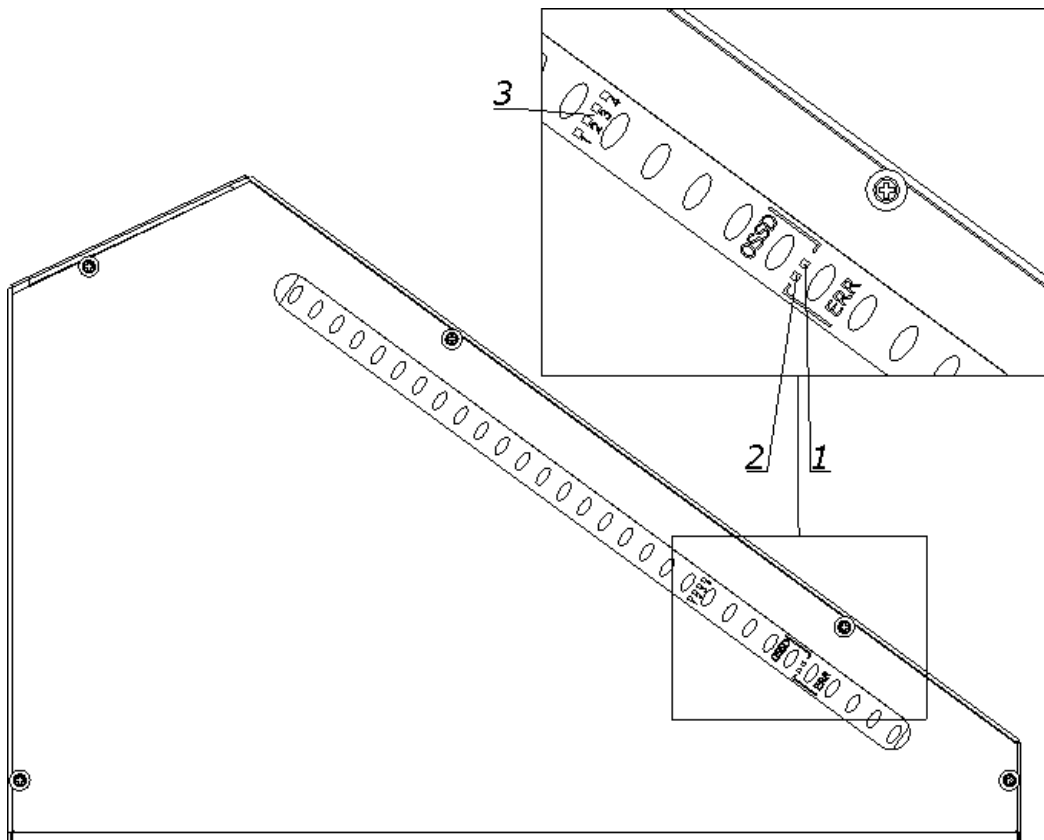
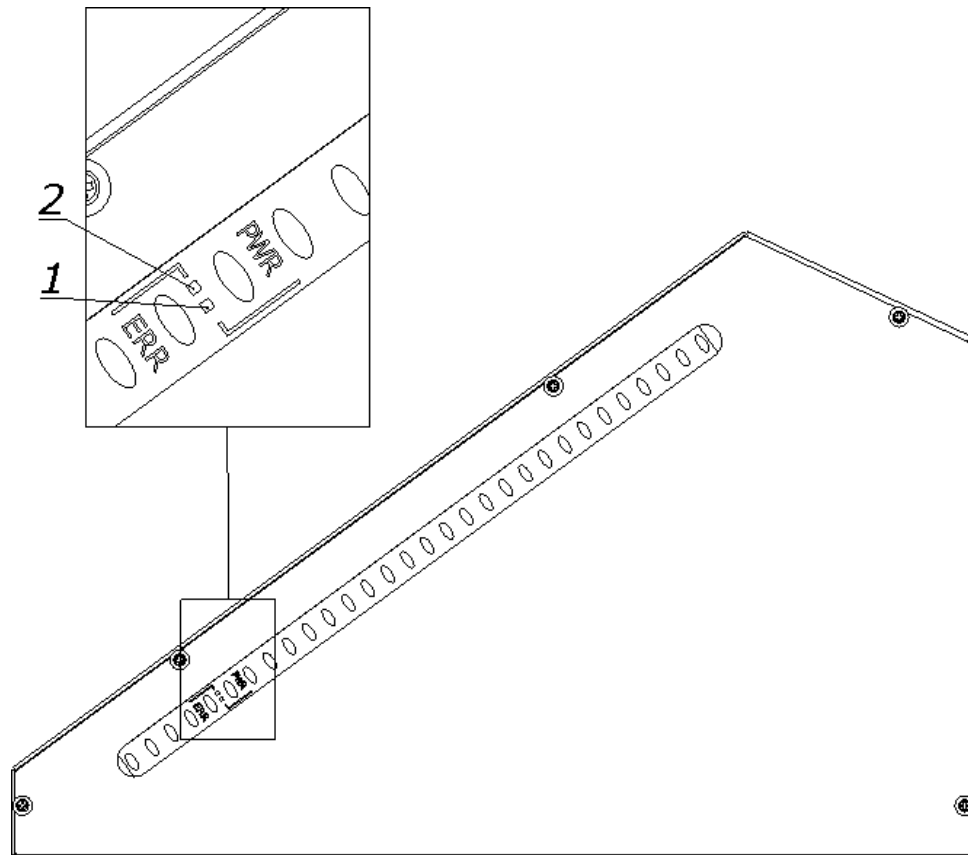
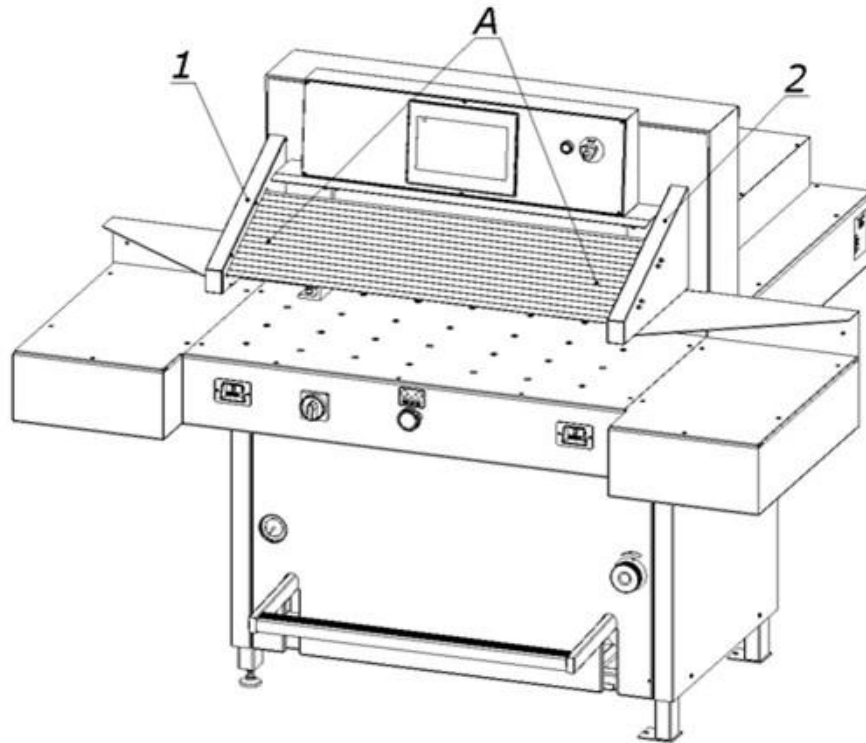

Figure 11. Indicators of the receiver
Figure 12. Indicators of the transmitter
Figure 16. Safety curtain
- the green OSSD 1 LED lights up (Fig.11) in the receiver 4 (Fig.15)
When the cutter is powered on, the transmitter (1) and receiver (2) are automatically initialized (see Figure 16). During initialization, all LEDs on both units illuminate briefly. After initialization, the receiver displays the alignment quality using four blue LEDs (3) — see Figure 11 and Table 8 for reference. Once the safety light curtain is properly aligned, the setting indicator LEDs will turn off after a short period. At this point: The green LED of the output switching device (item 1 in Figure 11) will remain lit, and Only the PWR LED on the transmitter (Figure 12) and LED 1 on the receiver's output device (Figure 11) will stay illuminated. This indicates that the safety light curtain is correctly aligned and ready for operation. In case of an error on the device, the red LED will light. On the side receiver red error LED - in combination with blue LEDs - indicates the cause of the error.